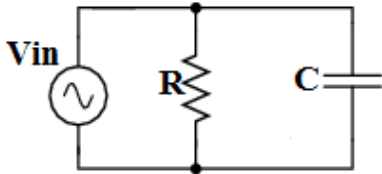

Figure 12: Parallel RC circuit
- Write a GW-BASIC program which calculate impedance in polar form of parallel RC Circuit shown in figure 12.